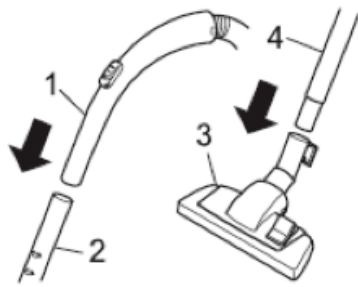
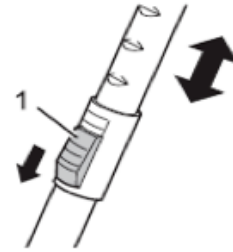

Fig.3
Fig.4
2. Insert the handle of the electric power hose (Fig. 3/1) into the upper end of the electric telescopic wand. Be sure to align the 2 prong electrical connections as you press the two pieces together. (Fig 3/2).
3. Attach the electric power nozzle (Fig. 3/3) to the bottom end of the telescopic tube. Be sure to align the 2 prong electrical connections as you press the two pieces together. (Fig 3/4).
4. Adjust the length of the telescopic tube. Press down the release latch on the tube to do this (Fig. 4/1). Then pull the handle of the telescopic tube to extend it to your desired length (Fig. 3/1). Let go of the release catch while pulling until it locks in place. You will hear a distinct click.